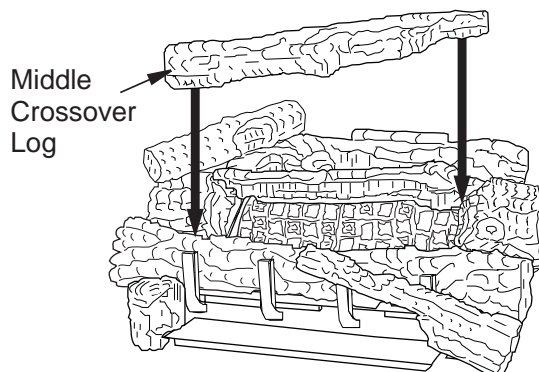

Figure 33 - Installing Middle Crossover Log
10. Rest the middle crossover log onto the right middle log and the left front log (see **Figure 33**). Make sure to match the projection on the bottom of the crossover log with the recess area in the right middle log and the left front log.